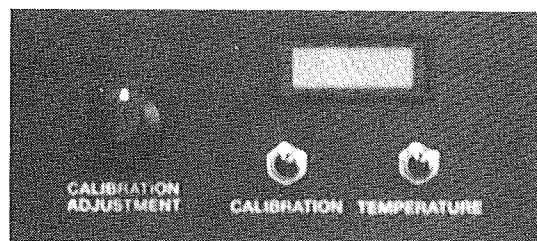

Figure 33
- A. The Digital Display Meter shows grain moisture constantly and should read approximately 6% when Sensor is in open air (no grain passing over Sensor), see Figure 33.
- B. Push Grain Temperature Button and the display meter will show Temperature of Grain on the sensor, see Figure 33.
- C. Push Calibration Button and the display meter will show the amount added to or subtracted from the displayed moisture (-9.9 to +9.9), see Figure 33.